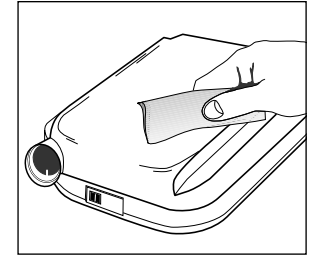

Figure 8
2. Wipe the cabinet with a clean, damp cloth and mild dishwashing detergent every few days to keep dust free **Figure 8**. Do not use alcohol or any alcohol-based solutions to clean the unit. These cleaning solutions may damage the plastic enclosure. **Allow the unit to dry completely before plugging the unit into a power source.**